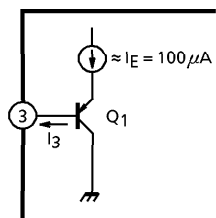

Fig.1
(1) Threshold voltage
Pin③ is coupled to the base of Q₁ (PNP-Tr) as shown Fig.1.
(3) I_3 (In Fig.1)